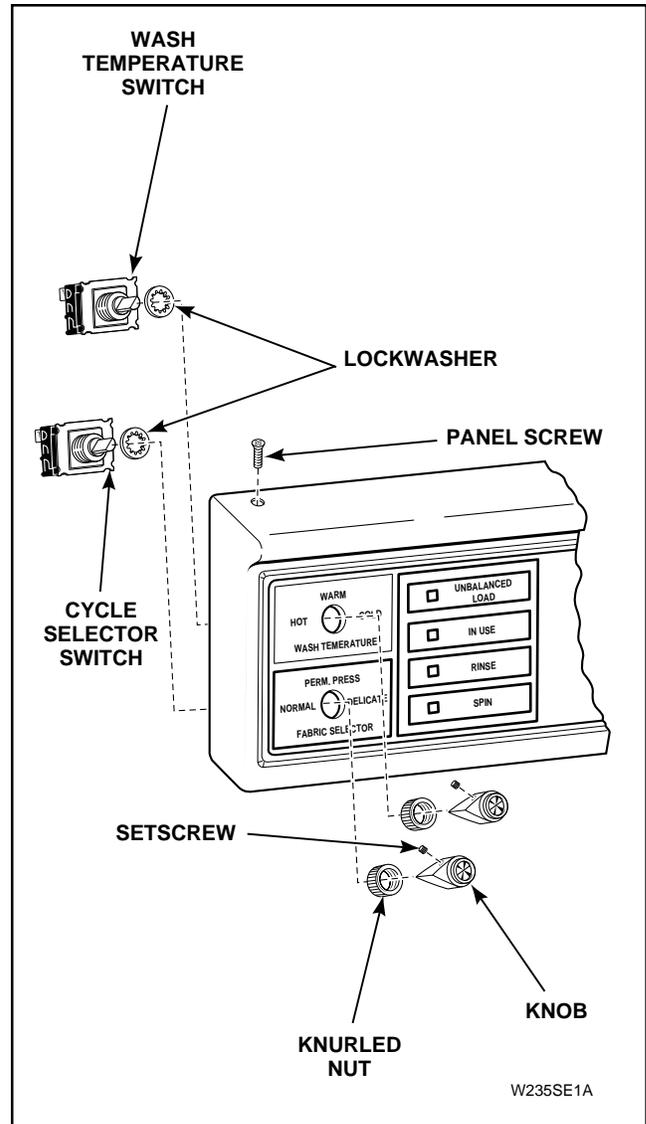

Figure 7
2. Loosen setscrew holding switch knob to switch shaft, *Figure 7*.
3. Remove knurled nut holding switch to control panel, *Figure 7*.
**NOTE:** Lockwasher must be between switch and control panel when installing switch, *Figure 7*.
2. Loosen setscrews holding switch knobs to switch shafts, *Figure 7*.
3. Remove knurled nuts holding switches to control panel, *Figure 7*.
**NOTE: Lockwashers must be between switches and control panel when installing switches, *Figure 7*.**